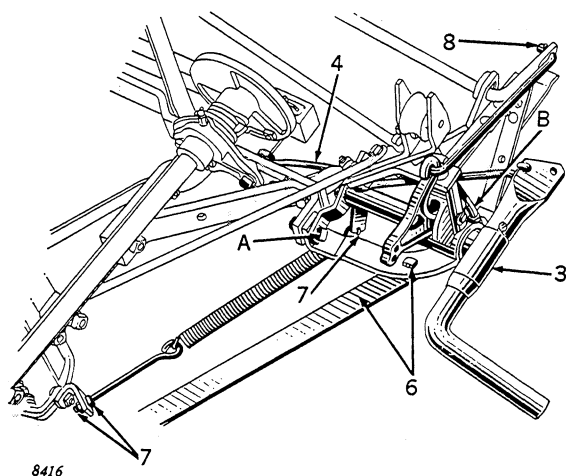

Figure 94
3. (Figure 94) Set special pipe crank and swivel casting assembly in position and bolt loosely at "A." At the same time replace lower support rod "B," Figure 94.
4. (Figure 94) Bolt brace from bracket at end of dump crank pipe to main front sill.
6. (Figures 94 and 95) Bolt angle brace to underside of lower support for swivel casting and to main frame cross sill.
7. (Figure 94) Hook bundle carrier return spring into connection bolt on dump crank and connect adjusting bolt to bracket on sector. Have just enough tension on spring to aid in lifting bundle carrier after dumping.
8. (Figure 94) Fasten connection link from bundle carrier dump crank to raising crank with cotter pin.